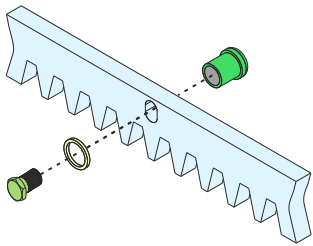

Fig. 8
6.2. Fix the support pawls on each gear rack element, by the use of the special lock screws; make sure to put them in the upper part of the hole - Fig. 8;